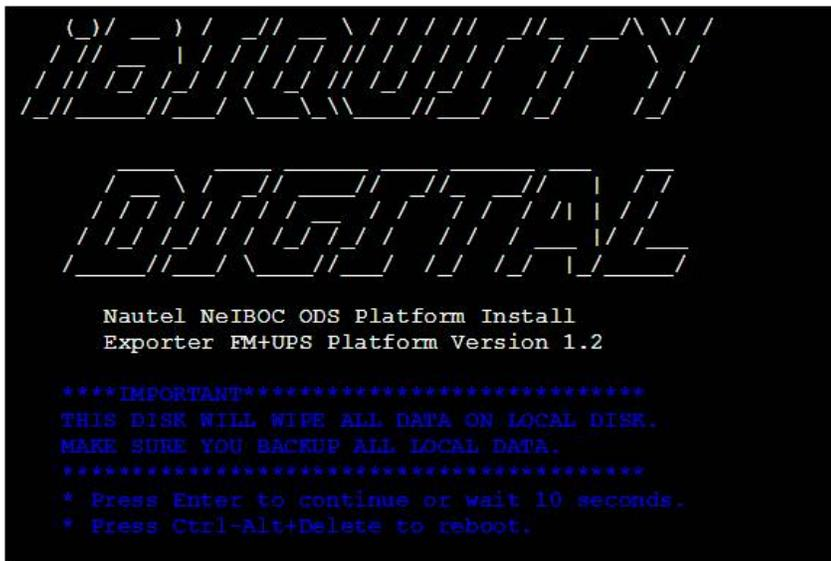

Figure 1: Initial reboot screen
- Reboot the Exporter by cycling (turning off and then back on) the ac power. You should see the screen shown in Figure 1. Press **Enter**.
- (e) When the installation is complete (approximately ten minutes), the Exporter will display the screen shown in Figure 1. Open the CD ROM drive, remove the CD and gently close the CD ROM drive.